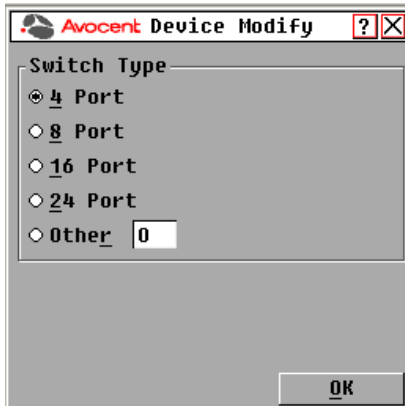

Figure 3.9: OSCAR Interface Device Modify Dialog Box
2. Click *Modify* to open the Device Modify dialog box shown in Figure 3.9.